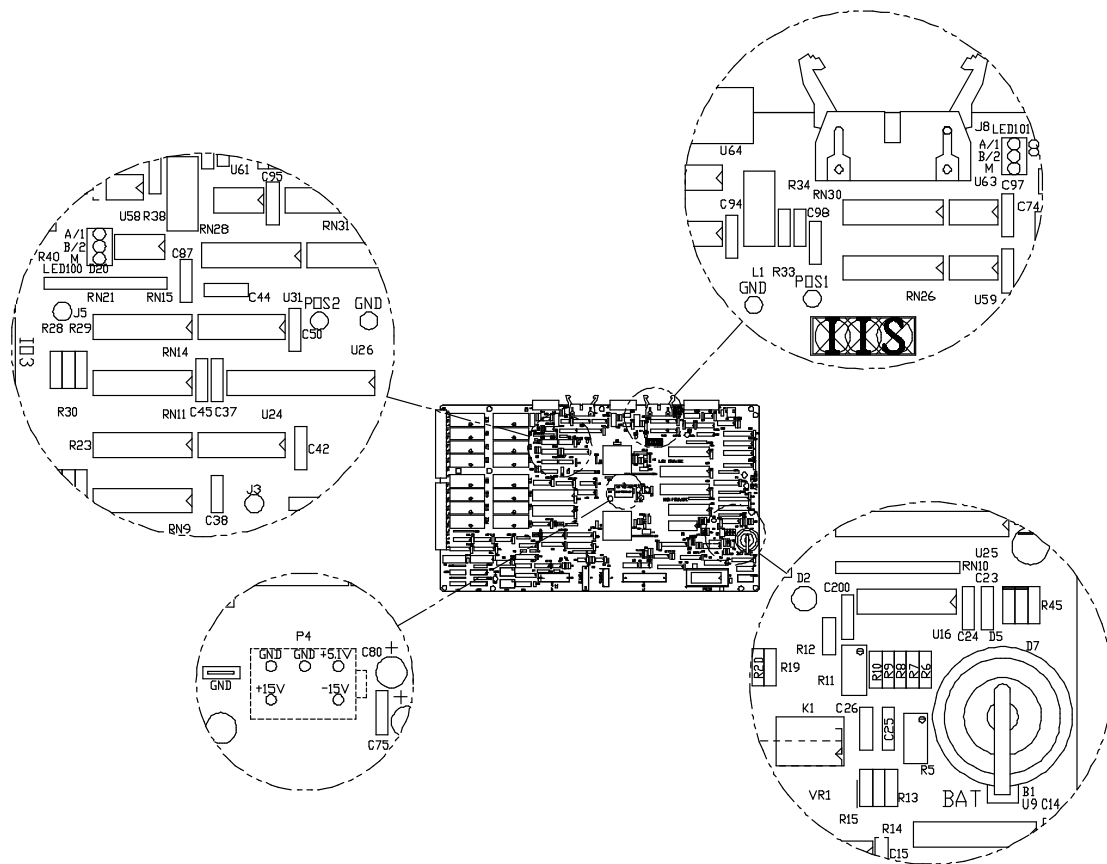

Figure 4.3 - Controller Circuit Board Test Points
8. Check each of the test points on the controller circuit board for the correct voltages (refer to **Figure 4.3**).